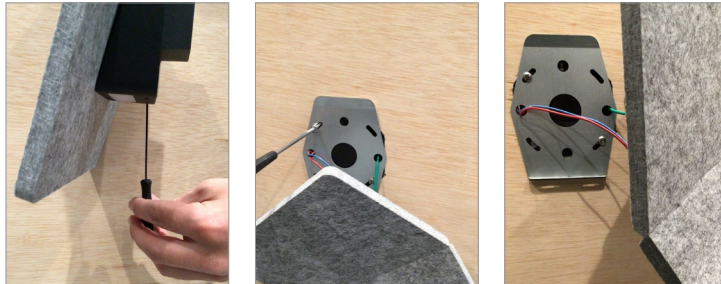

Fig.3: Loosen set screws and secure mounting bracket.
Remove set screws from the bottom of the fixture. Use (2) junction box screws to secure the mounting bracket to the junction box (Fig.3).